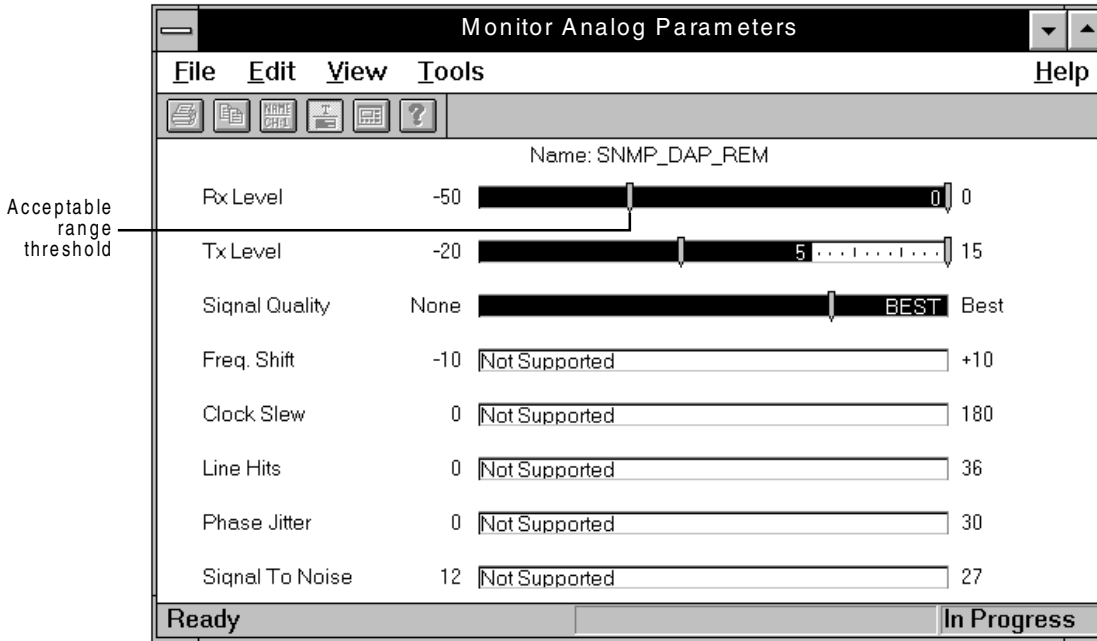

Figure 5-2. Monitor Analog Screen – Graphic View
- If the Graphical option is enabled, the graphic display appears. (See Figure 5-2.) A horizontal bar indicates the current level, which is updated every few seconds. If the analog level is within the user-defined acceptable range, the bar will be green. If it is outside the acceptable range, the bar will be red.